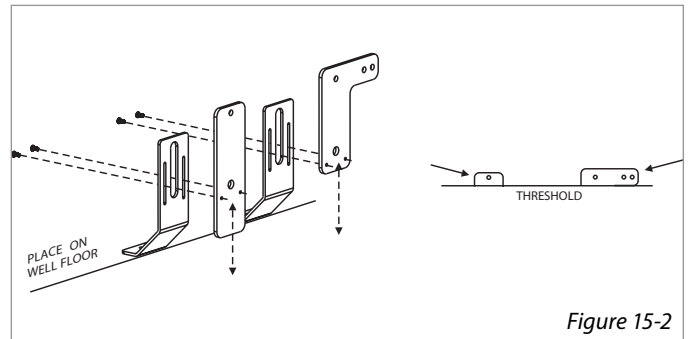

Figure 15-2
- Establish height** by having mounting holes show over threshold. [Figure 15-2] Attach joiners, using small screws provided, to lock height.